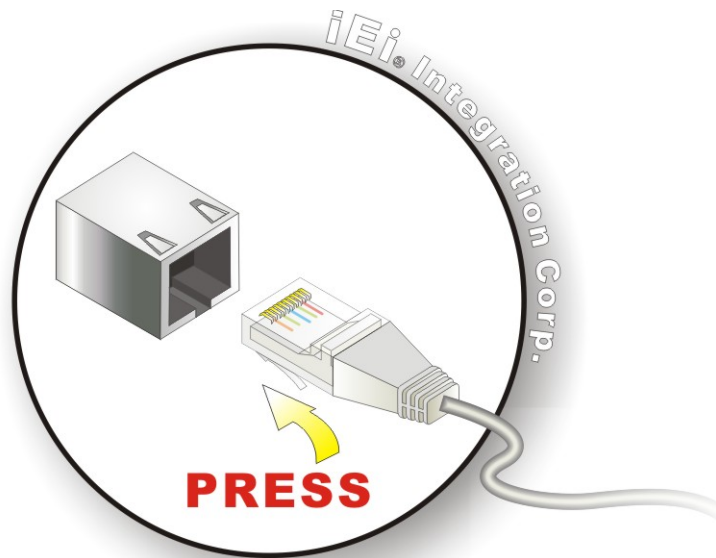

Figure 4-19: LAN Connection
Step 2: Align the connector. Align the RJ-45 connector on the LAN cable with the RJ-45 connectors on the bottom panel of the AFL2-12A-HM65. See **Figure 4-19**.